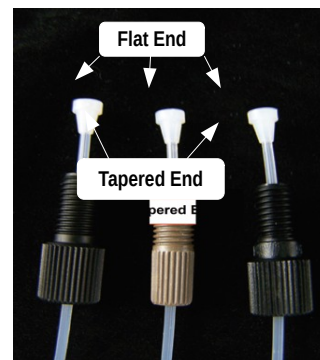

Figure 5: White Ferrule with the tapered end facing the Nut.
**Note:** The *White Ferrule* slides onto the *Tubing* with the tapered end toward the *Nut* and the flared end toward the *Valve Port*. The *Tan Ferrule* slides onto the *Tubing* with the tapered end toward the *Valve Port* and the flared end toward the *Nut*. When installing and tightening these fittings, be sure to push the *Tubing* all of the way into the *Valve Ports* (Figures 5 & 6).